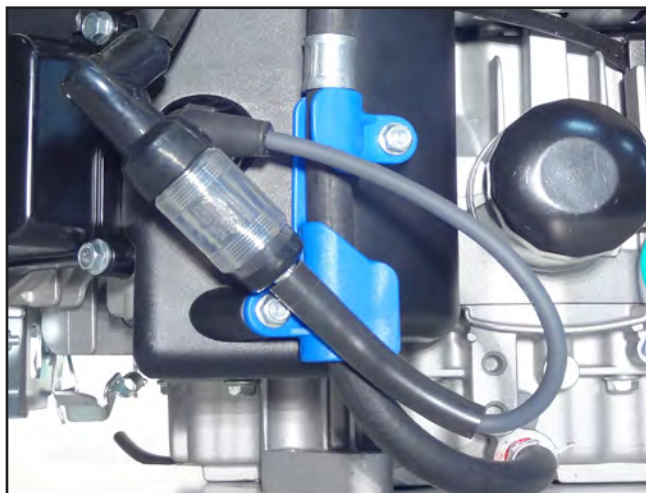

Figure 7
2. Connect in-line spark tester between the spark plug's high tension terminal and the spark plug (Figure 7).